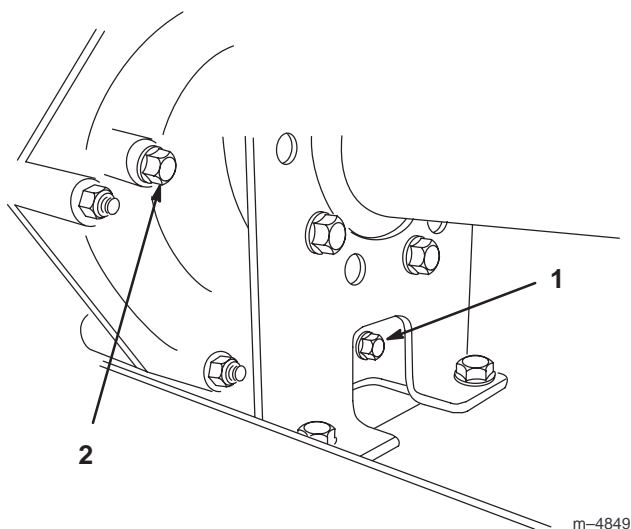
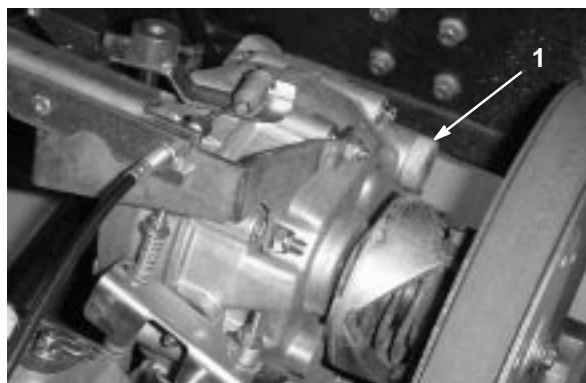

Figure 39
Figure 40
2. Remove the drain plug from the right side of the reservoir (Fig. 39) and let the fluid flow into a drain pan. Install and tighten the plug when the fluid stops draining.
3. Fill the reservoir (Fig. 40) with approximately 1-1/2 qt. (1.4 liters) of SAE 10W30 motor oil or until the oil level is at the bottom of the level indicator hole (Fig. 39).